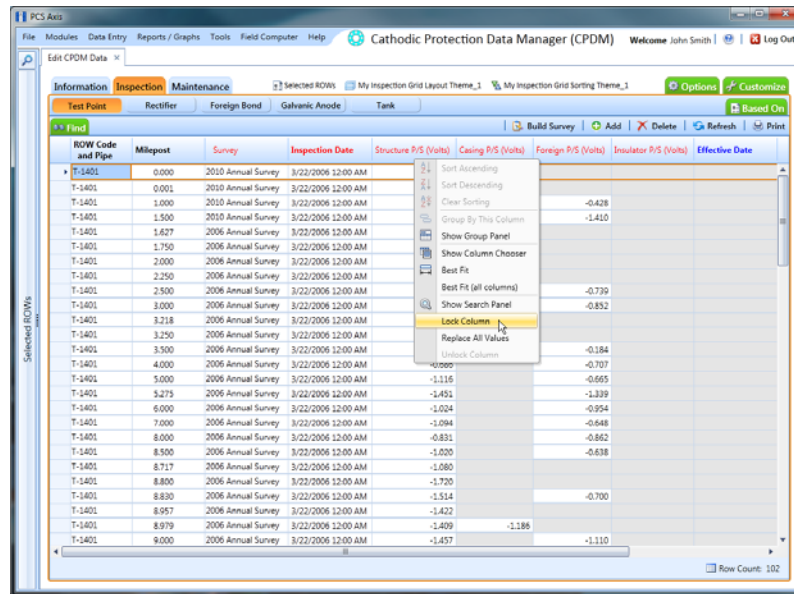

Figure 6-2. Lock Grid Column
- Right-click a grid column and then select **Lock Column** in the shortcut menu that opens (Figure 6-2, page 167).